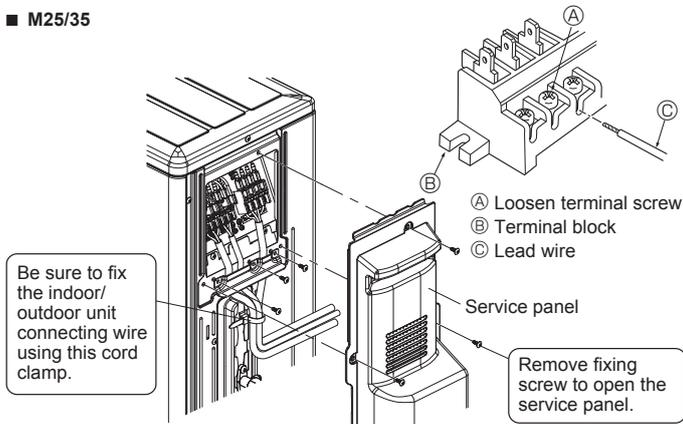
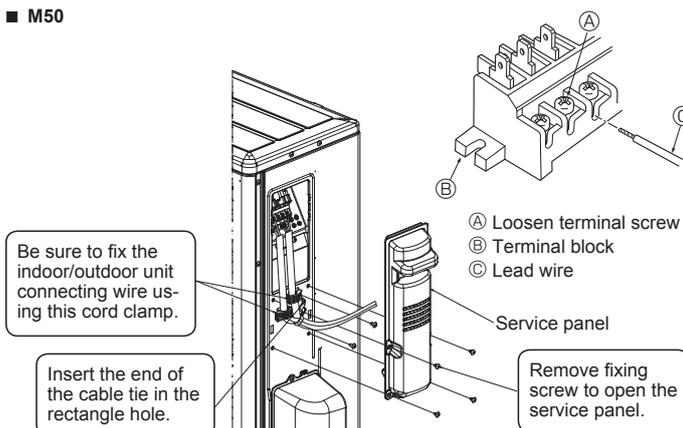

Fig. 6-3
Fig. 6-4
6.1. Outdoor unit (Fig. 6-1, Fig. 6-2, Fig. 6-3, Fig. 6-4, Fig. 6-5)
- ① Remove the service panel.
- ② Wire the cables referring to the Fig. 6-1, Fig. 6-2, Fig. 6-3, Fig. 6-4 and the Fig. 6-5.